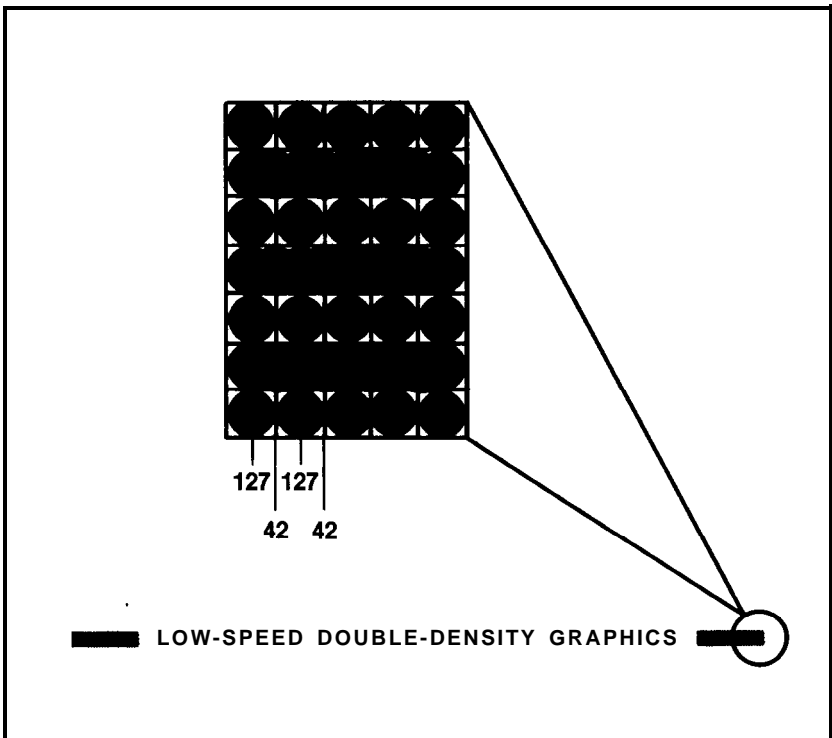

Figure 11-3. Overlapping dots
Take note of the print speed when you RUN your program this time. It's the same density as the previous mode, but printed at half the speed. As you can see in Figure 11-3 or from looking very carefully at your printout, this time the CHR\$(42) columns are printed as requested.